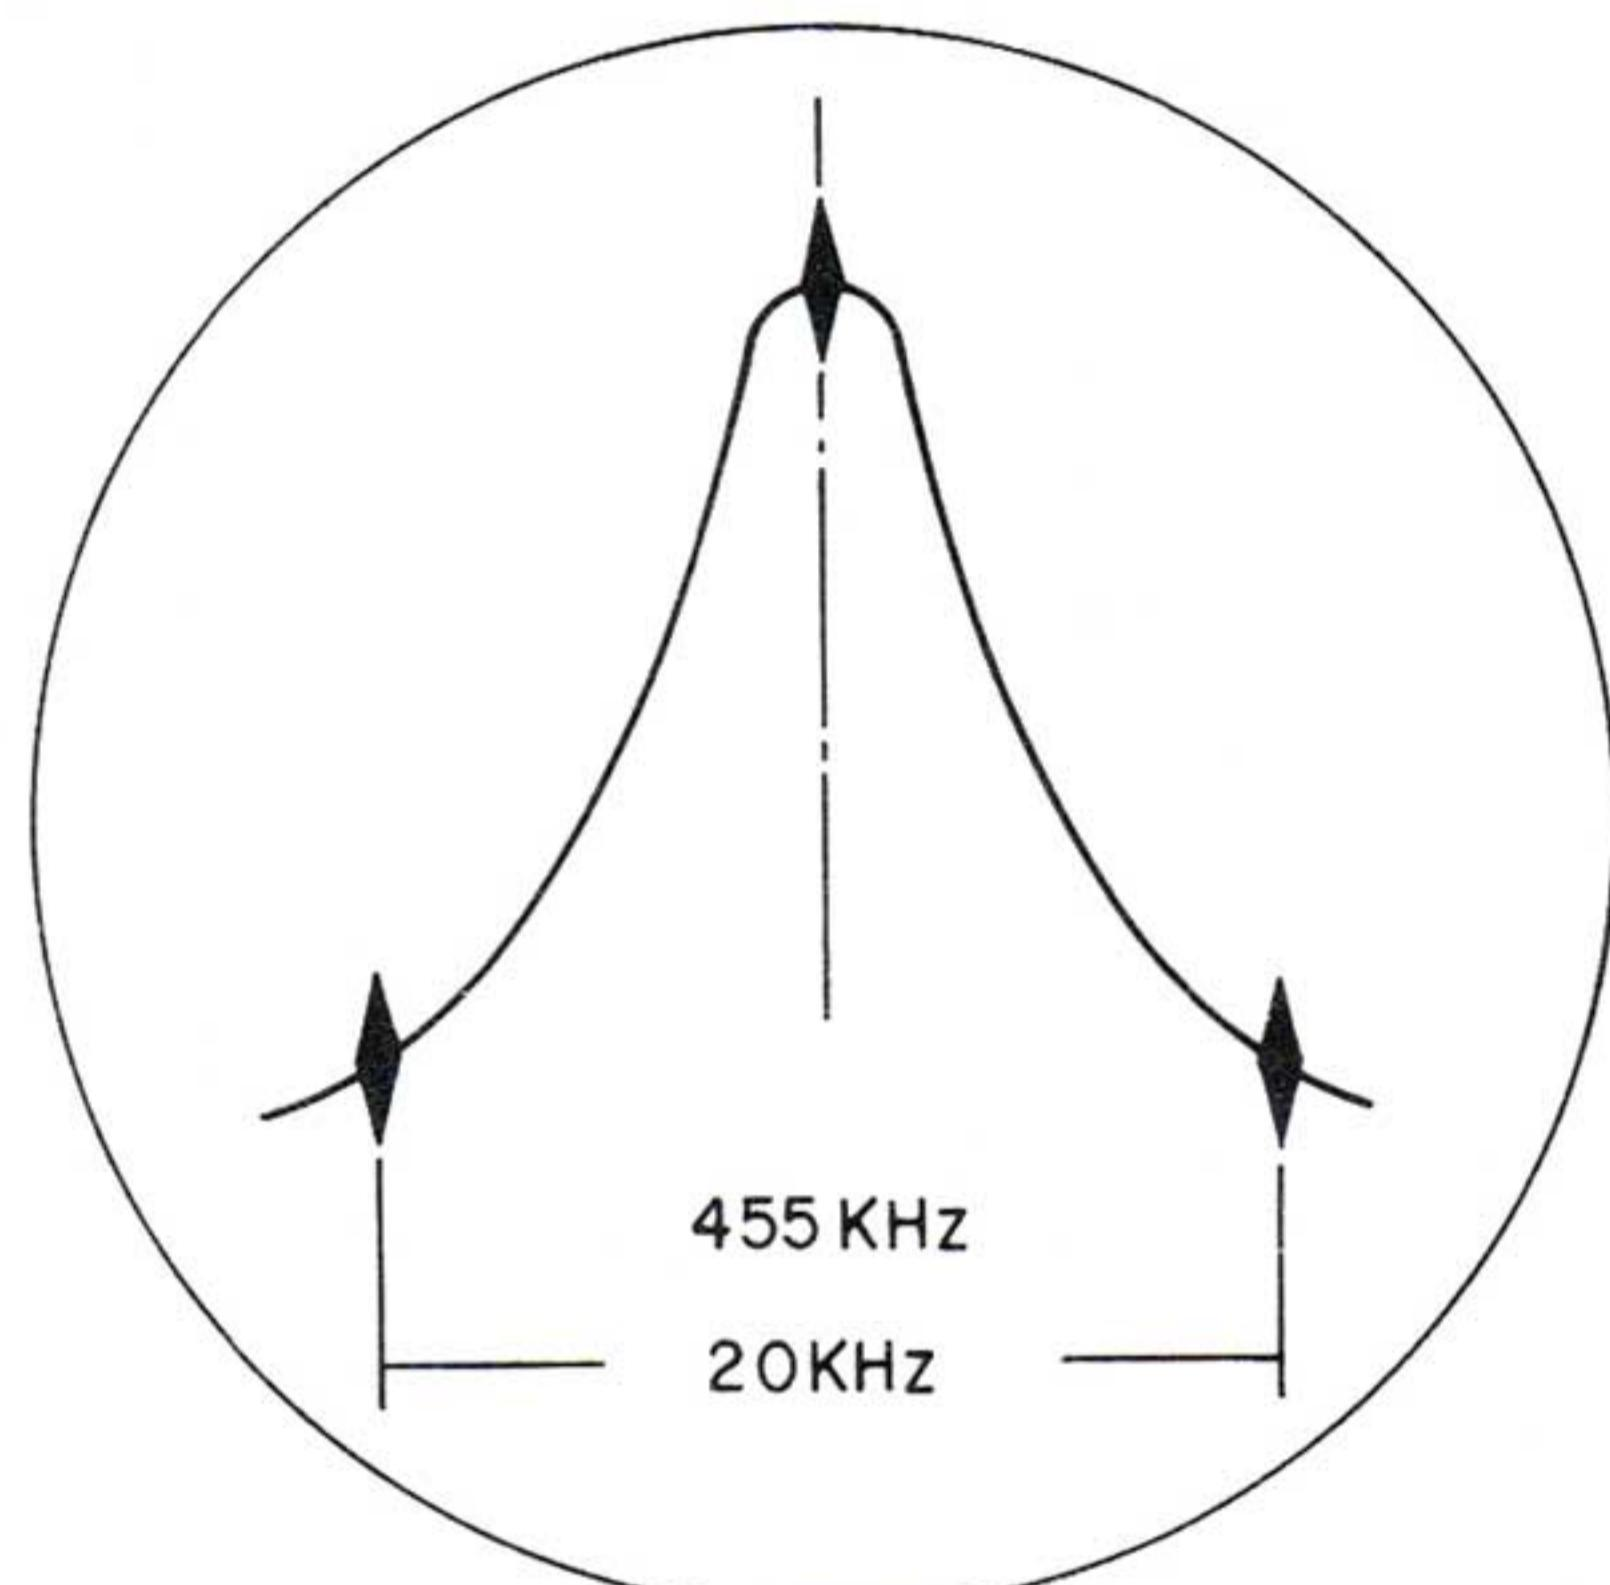

Fig. 10
- (d) Adjust the Sweep Generator output to approximately 50 dB (310 μ V). Then adjust the upper and lower cores of T-402 and T-403 so that the waveforms shown in Fig. 10 are obtained. Adjust them so that the center markers divide the waveforms into two symmetrical parts and the highest peak value is obtained.